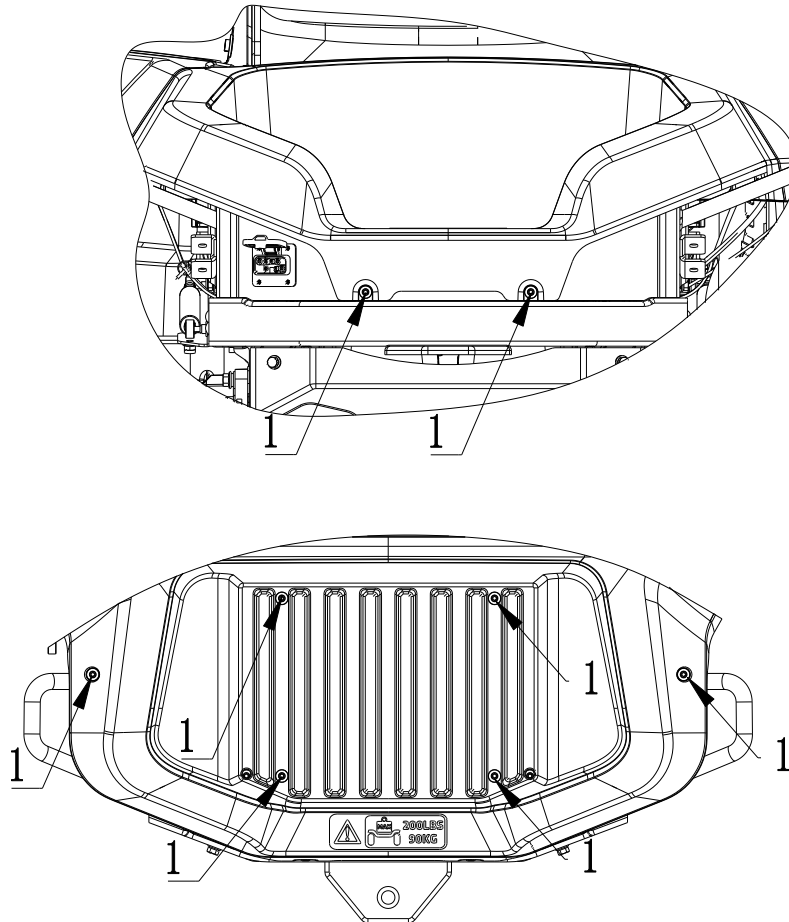

Fig.1
2. Use a T30 screwdriver to remove the eight binding bolts (see in Fig.1).